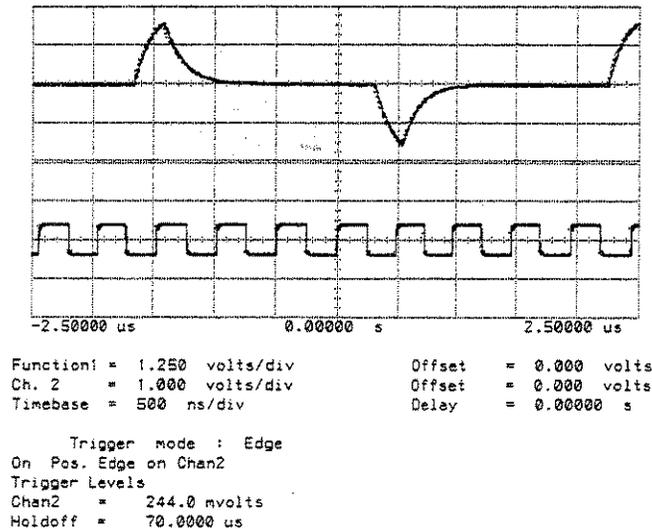

Figure 8-21 Pulse Shape Network Adjustment (Data Output)
24. Adjust the Pulse Shape Network for a waveform on Channel A similar to that as shown in Figure 8-21.